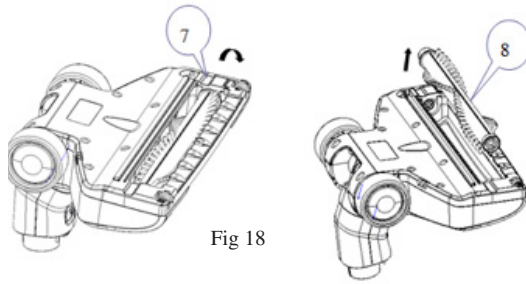

Fig 18
8. When there is hair wound in the floor brush, firstly reverse the floor brush and then unlock the Release button of rolling brush (7) to remove the Rolling brush (8) (see Fig.18).